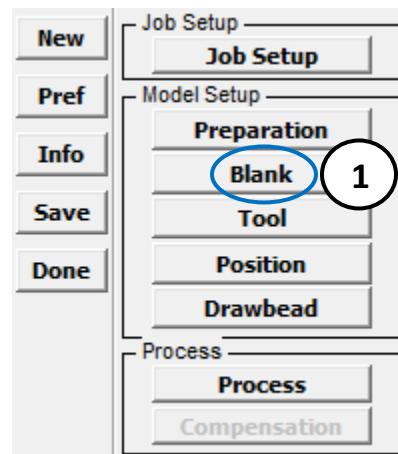
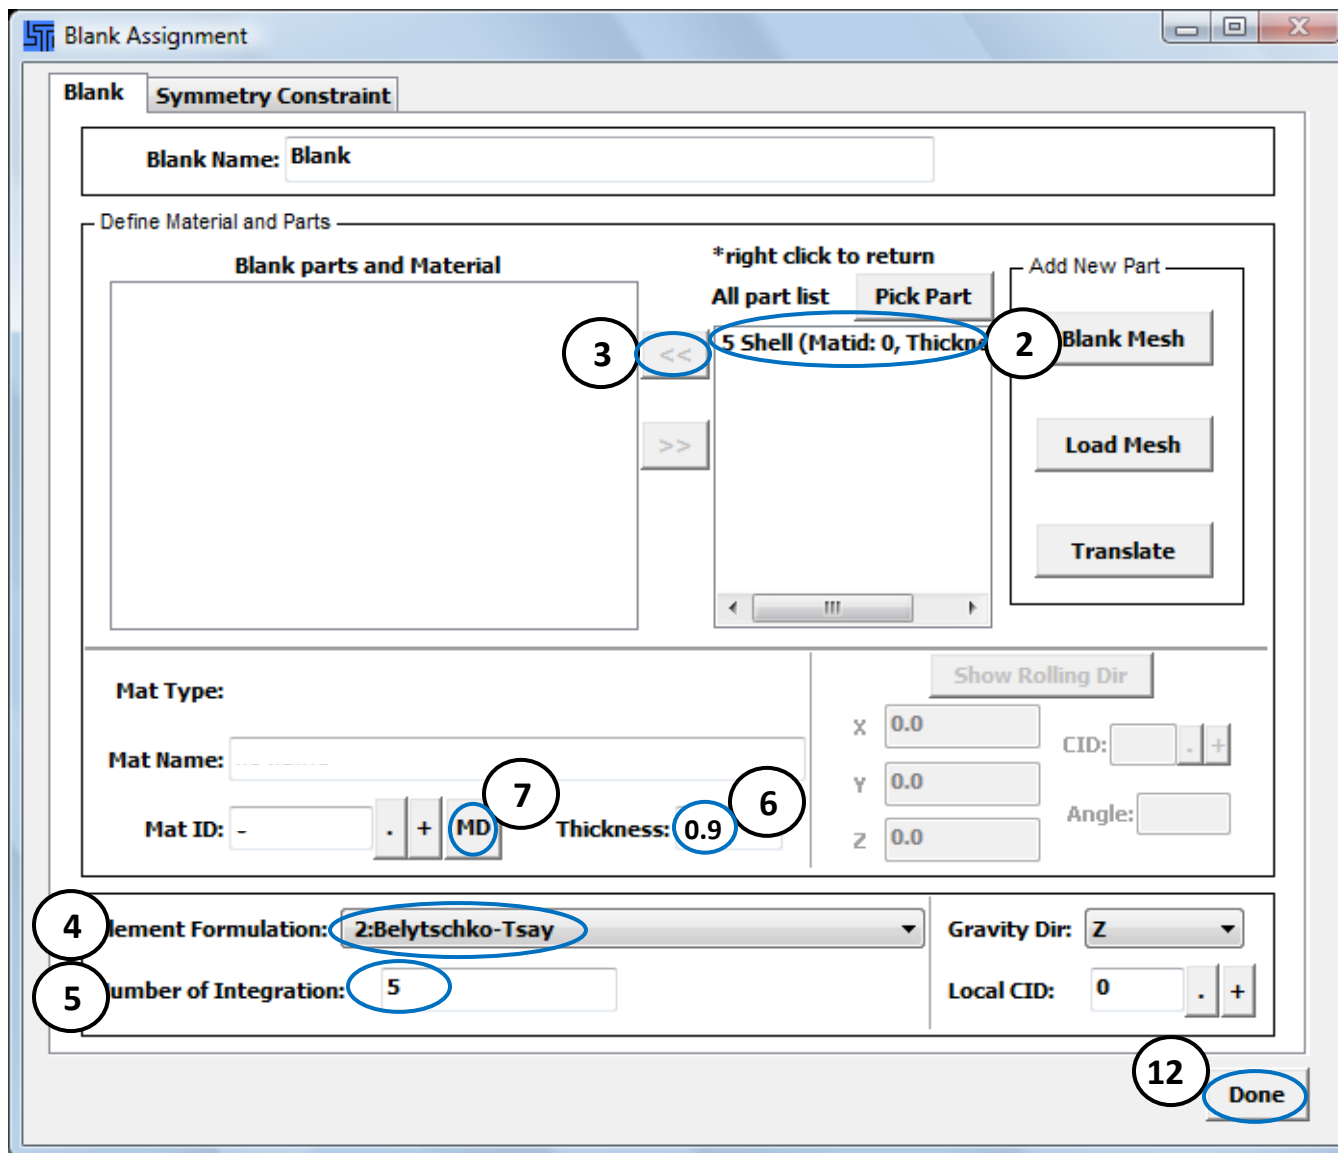

Figure 2
Figure 3
2. Define Blank (refer to Figures 2 and 3)
click *Blank* in the side panel in Figure 2 (launches *Blank Assignment* Dialog in Figure 3)